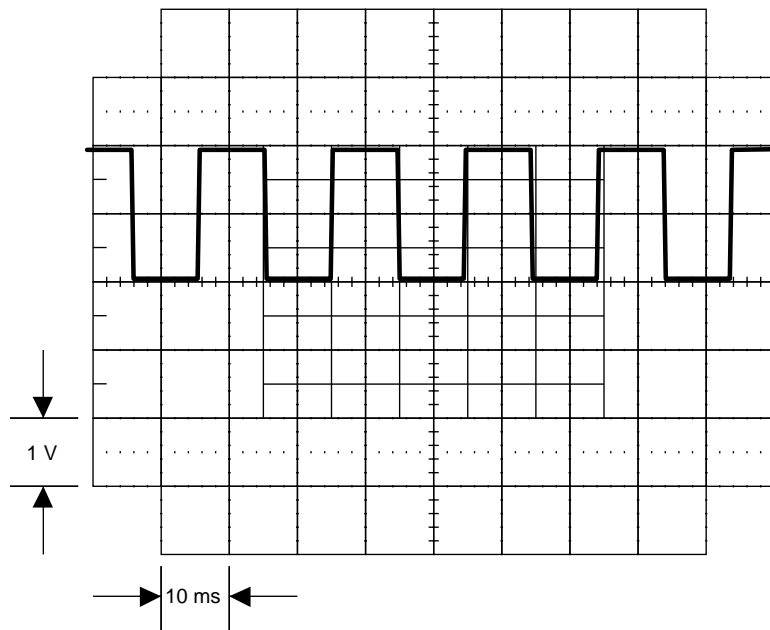

Figure 5-15. Waveform at TP16
10. Check the Output Switching. Connect an oscilloscope and frequency counter to TP16. Set the 5700A for 2V at 1 kHz, operate, and verify the oscilloscope displays a signal similar to Figure 5-15, and the frequency counter reads 1 kHz $\pm 0.01\%$. Next, set the 5700A for 2V at 100 kHz and verify the frequency counter reads 100 kHz $\pm 0.01\%$. If a failure is detected, check U18B, C, D, U15C, Q16, and associated components.